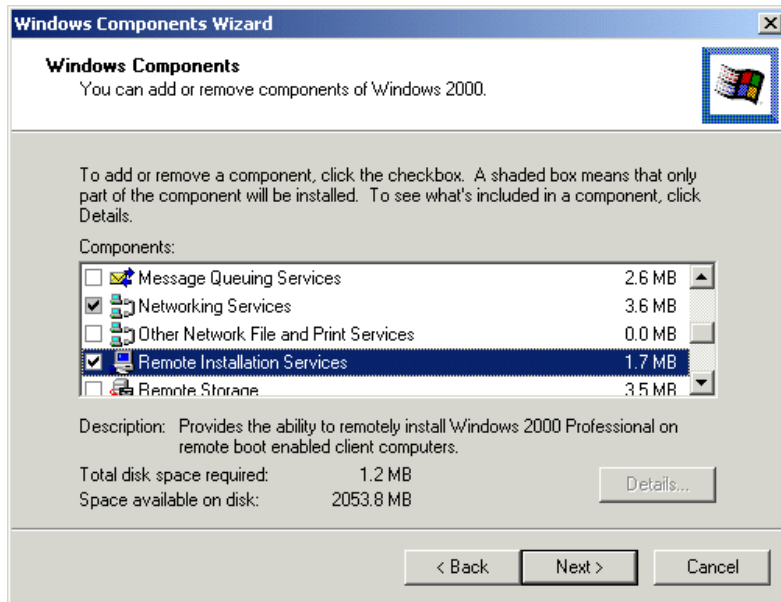

Figure 3-1 Installation of RIS onto a Windows 2000 Server
- d. Scroll down to Remote Installation Services (Figure 3-1 on page 33).